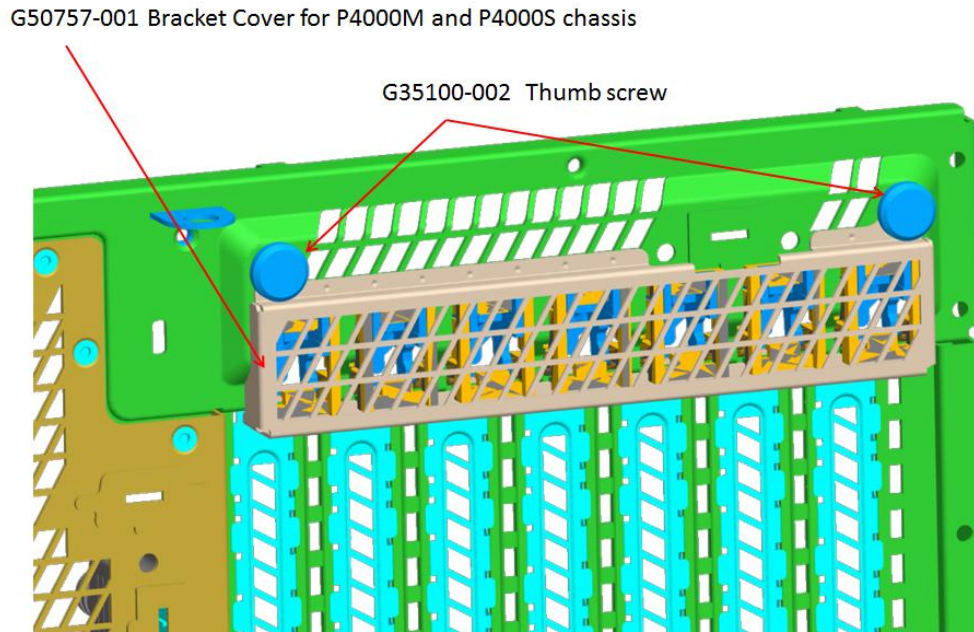

Figure 14. Installation of P4000S and P4000M chassis EMI Bracket Cover
5. Add the EMI Bracket cover using the 2 thumb screws as shown in Figure 14 or Figure 15 per Table 6
P4000BTL Family	Figure 14
P4000CP Family	Figure 14
P4000GP Family	Figure 14
P4000SC Family	Figure 14
P4000M Chassis	Figure 14
P4000S Chassis	Figure 14